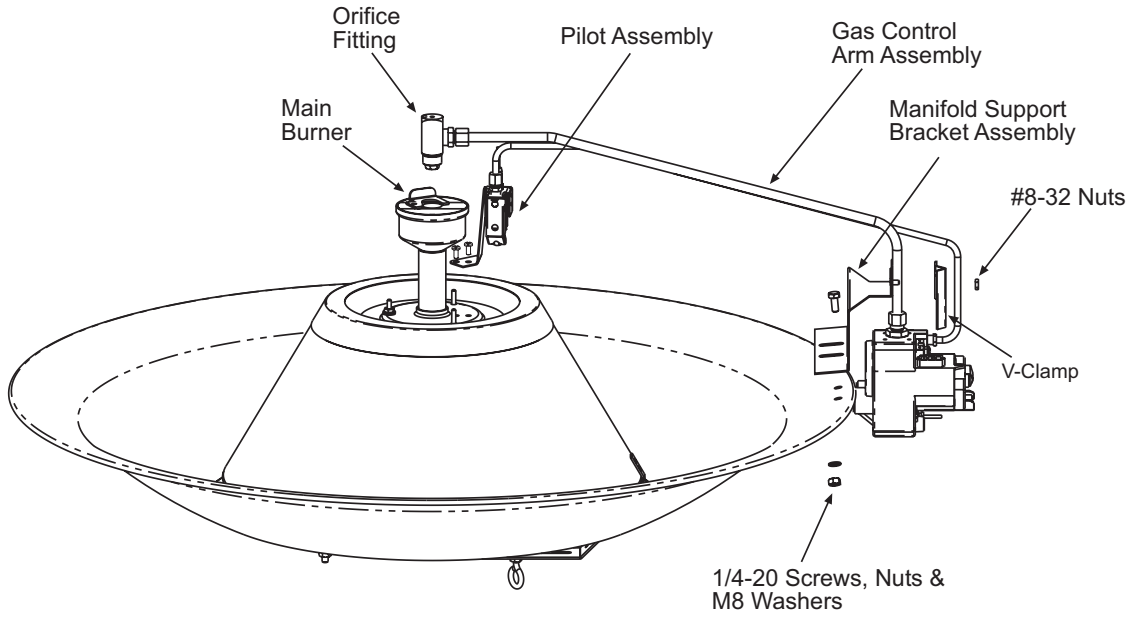

FIGURE 3
6. Attach the Manifold Support Bracket Assembly to the rim of the Canopy using two (2) screws, nuts and washers from the Fastener Kit. See Figure 3. **NOTE: DO NOT COMPLETELY TIGHTEN THE FASTENERS AT THIS STAGE YET.**
7. Attach the Control Arm Assembly to the Manifold Support Bracket Assembly as shown in Figure 3 using one (1) V-clamp and two (2) nuts from the Fastener Kit. **NOTE: Adjust the Control Arm so that the V-clamp is butt against the tube fitting located at the bottom of the Gas valve. Tighten the nuts.**